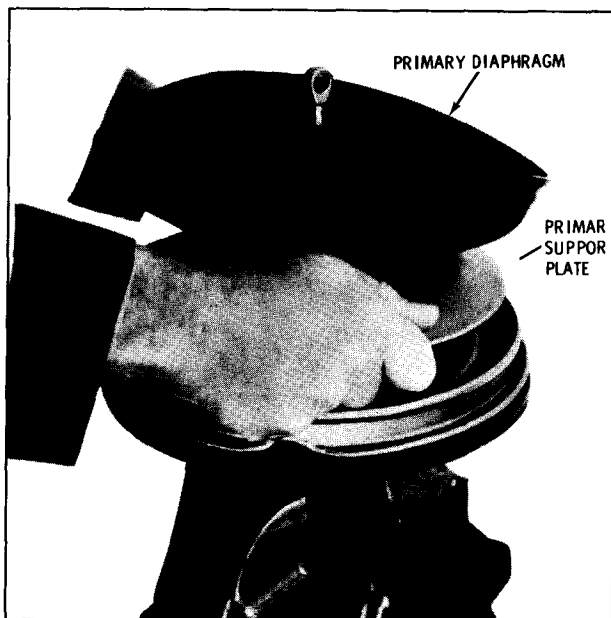

Figure 39—Unlocking Power Piston
12. Fold back primary diaphragm from the outside diameter of the primary support plate. Grip the edge of the support plate and rotate counterclockwise to unscrew the primary power piston from the secondary power piston. (figure 39)
32. Grip the edge of the primary support plate, press down, and start the threads on the secondary power piston into the threaded portion of the primary power piston by rotating in a clockwise direction. (figure 39)